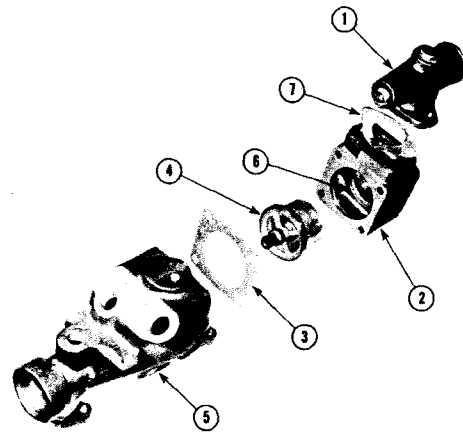

Fig. 8-24, (N10814). Thermostat housing and seal
1. Remove water outlet connection (1, Fig. 8-24) and thermostat housing (5).
2. Remove gasket (3), thermostat (4) and seal (6).